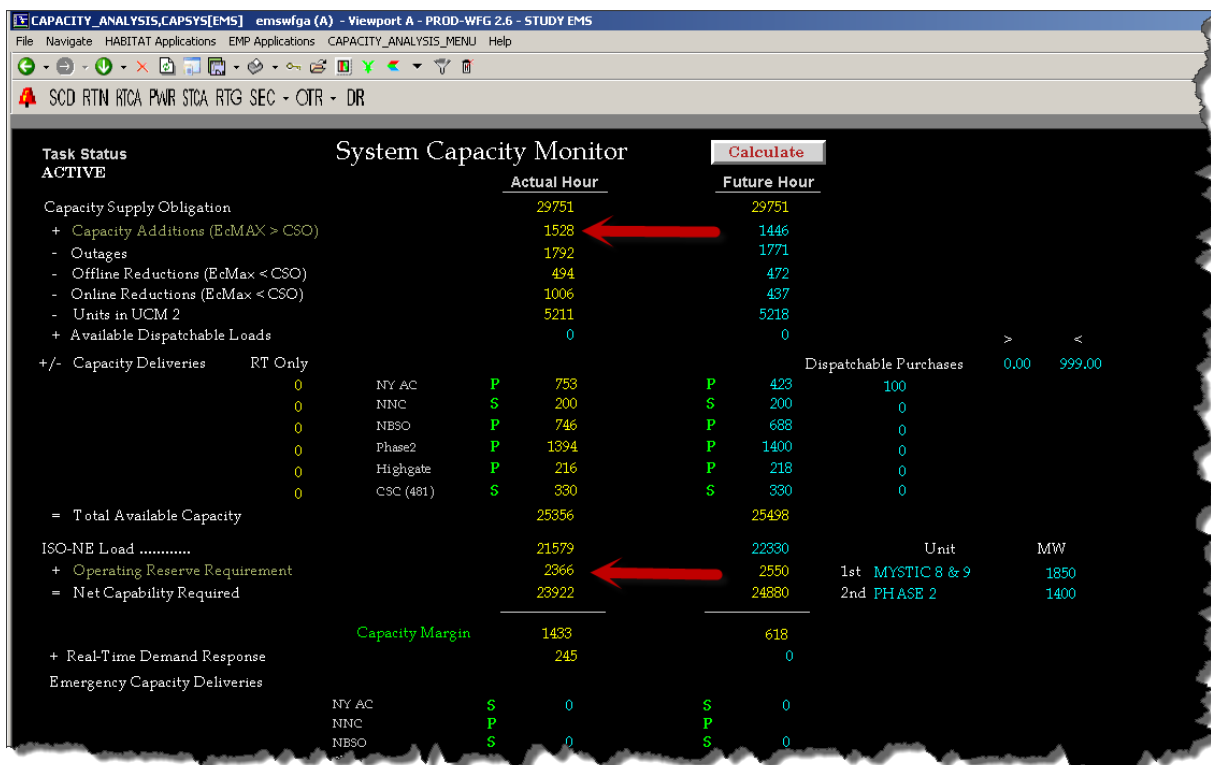

Fig. 3
7. POPULATE the "Non CSO Avail Supply Adj MW" column with the "MW above EcoMin" from the EMS CapSYS page (Fig. 3).
9. ENTER the "Operating Reserve Required MW" and "Non CSO Avail Supply Adj MW" as shown in a current EMS CapSYS page (Fig. 3):